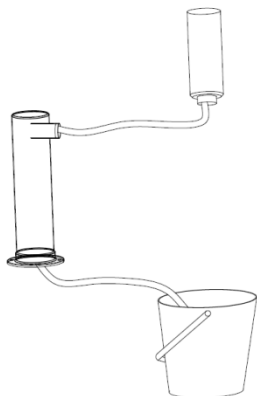

Figure 1
6. Drop the coupler end of the beer line into bucket. Attach the bottle to the faucet-end of the line, and pump the solution through the line. It'll come out the other end of the line in the bucket (figure 1). Wait 15 minutes while cleaning solution works through the lines.